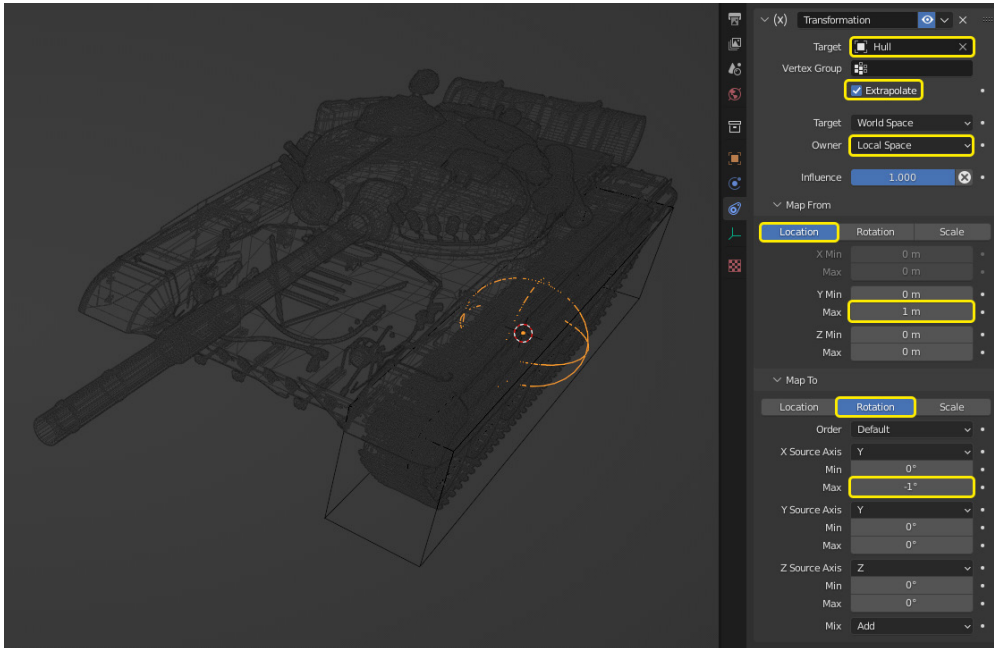

Figure 11.26 – Empty sphere constraint
5. Add a **Transformation** constraint to the empty sphere, so that the hull location is mapped to sphere rotation. To do this, copy the configuration shown in *Figure 11.26*: